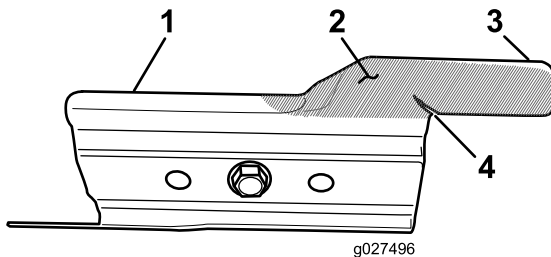

Figure 27
Carefully examine the accelerator for excessive wear (Figure 27). Because sand and abrasive material can wear away the metal (especially in the area shown as item 2 in Figure 27), check the accelerator before using the machine. If you notice that a tab on the accelerator has been worn down to a sharp edge or there is a crack, replace the accelerator; refer to Removing the Blade (page 22).